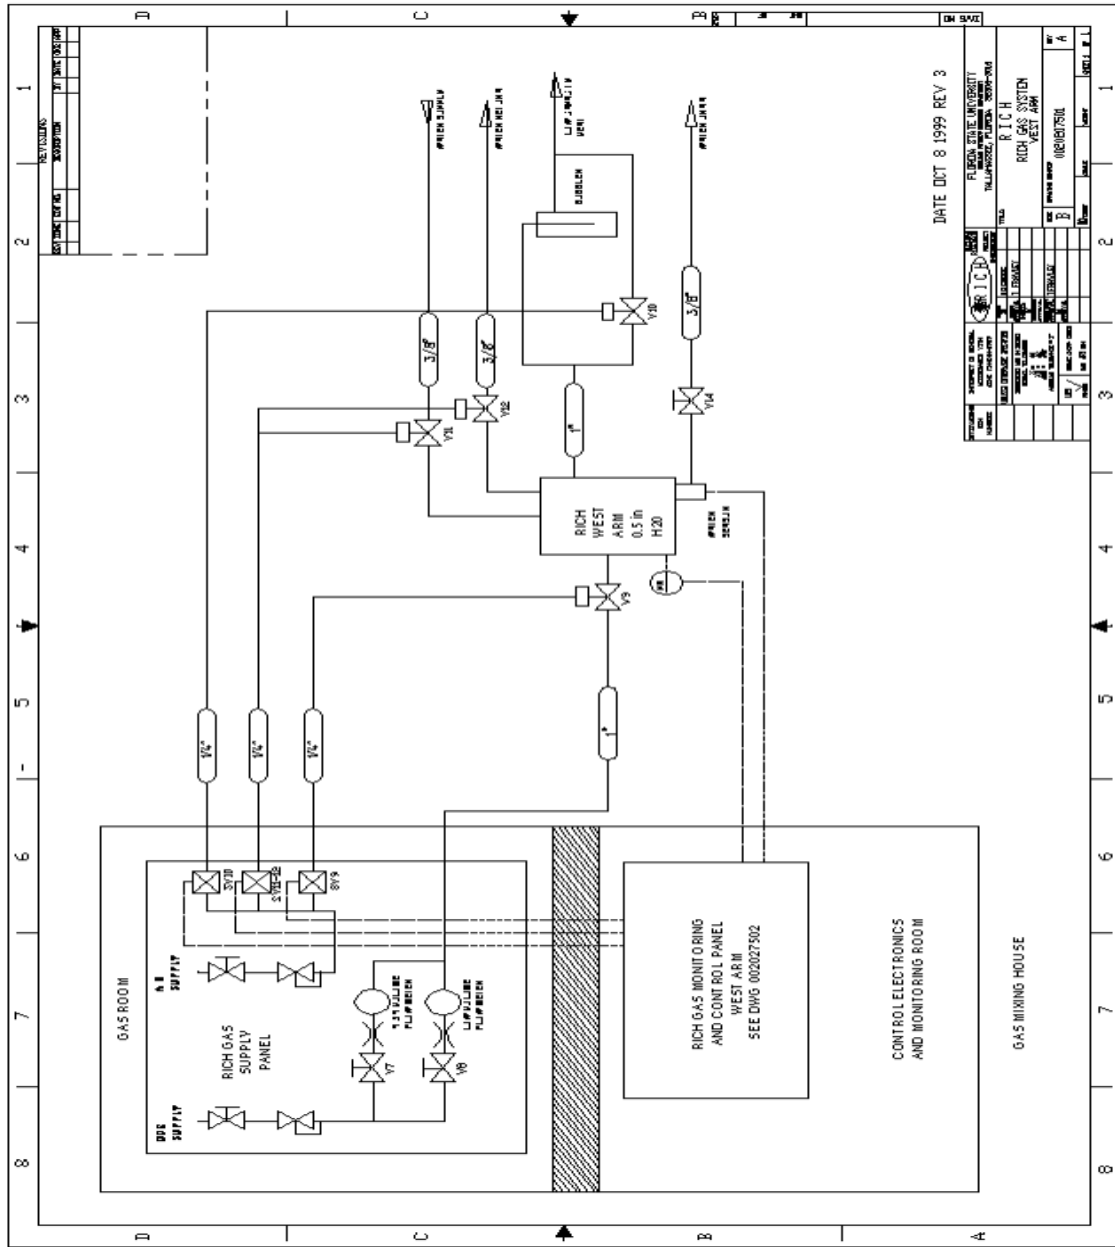
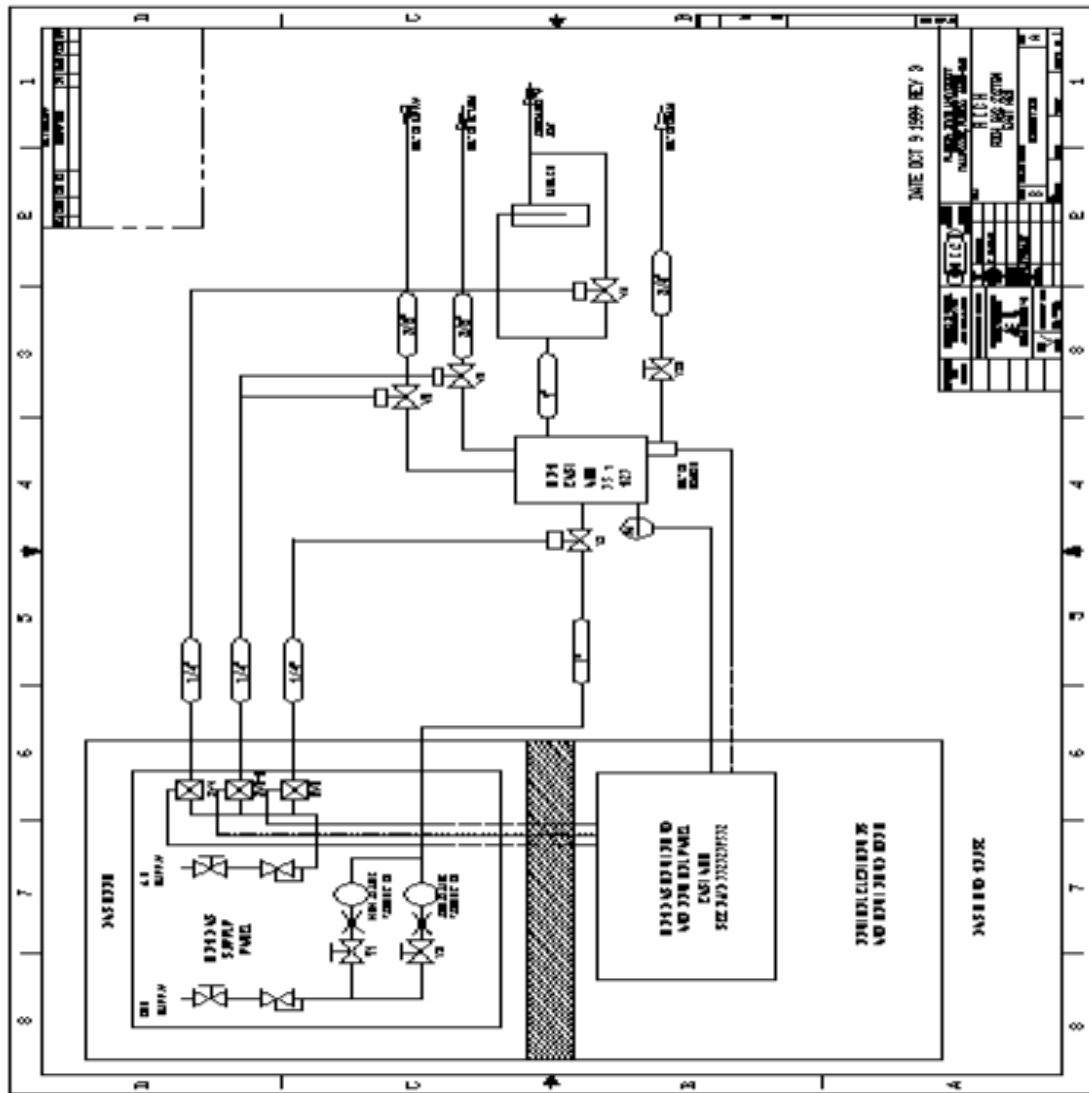

Fig. 1 RICH west arm gas system schematic
Fig. 2 RICH East arm gas system schematic.
Refer to fig. 1 for a flow control diagram for the RICH west arm, and Fig. 2 for a flow control diagram for the RICH east arm. All gas system controls and readouts for the RICH are located in the PHENIX gas mixing house. The two RICH arms may be purged at the same time.
Refer to fig. 1 for a flow control diagram for the RICH west arm, and Fig. 2 for a flow control diagram for the RICH east arm. All gas system controls and readouts for the RICH are located in the PHENIX gas mixing house.
1. Figure 1 - RICH gas system flow control schematic for the west arm.
2. Figure 2 - RICH gas system flow control schematic for the east arm.